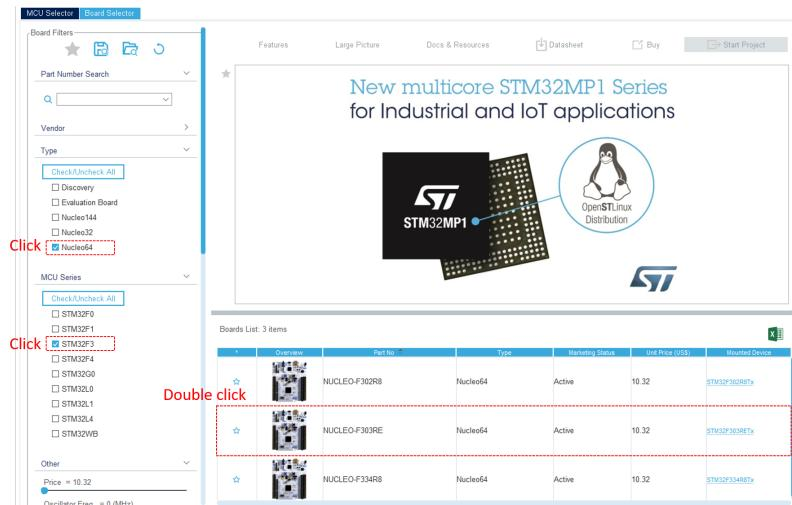

Figure 3.2: Selection of the wanted chip [3].
- Next, select the type of chip we are using, in our case the Nucleo64 F303RE chip, using the selection filters framed in red dotted on the fig. 3.2 ;